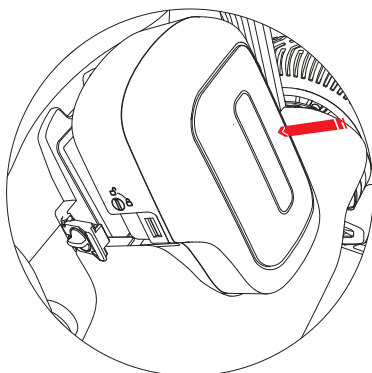

Figure 4.6.2.1
(4) Inserting the Battery (Refer to Figure 4.6.2.1)